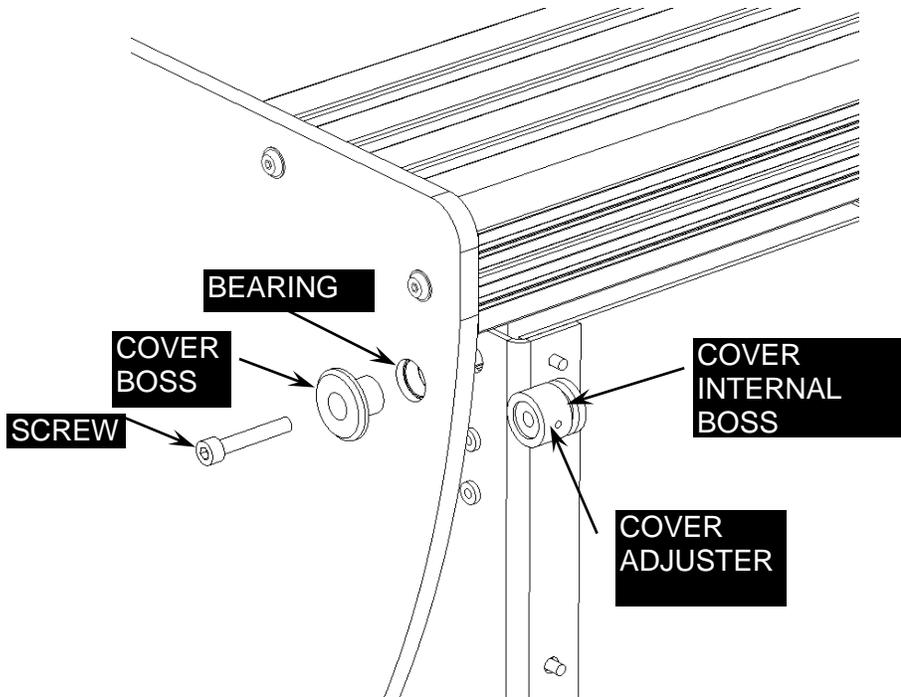

Figure 6-5: Screws for Top Cover
2. Remove the Socket head screws from the left and right side of the cover as shown in Figure 6-5.